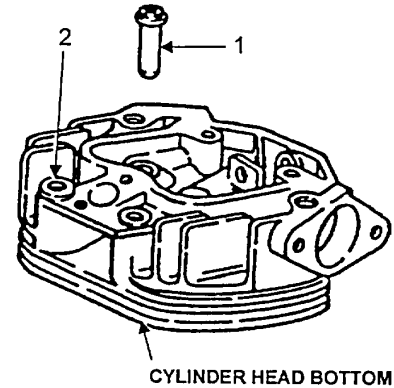

FIGURE 5-34. VALVE GUIDE
a. If the inside diameter of the cylinder head guide (Figure 5-34, Item 1) exceeds 0.2780 Inch (7.059 mm), replace the guide. Press out the valve guide.
b. From cylinder head bottom, push valve guide (1) out of the cylinder head (2). Insert new valve guide (1) into cylinder head (2). Install new valve guide by pressing in. Minimum Inserting force is 220 lb. (100 kg)